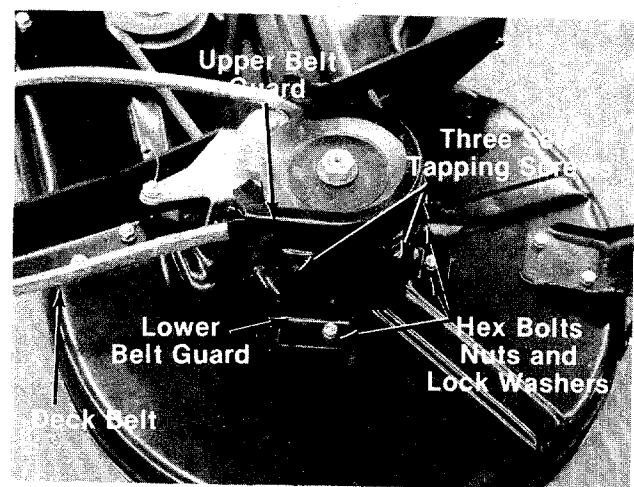

FIGURE 34
1. Remove three hex self-tap screws holding the upper belt guard to the lower belt guard. See figure 34.
1. Remove the deck belt and upper belt guard. See figure 34.
2. Remove the lower belt guard by removing three hex bolts, lock washers and hex nuts. See figure 34.